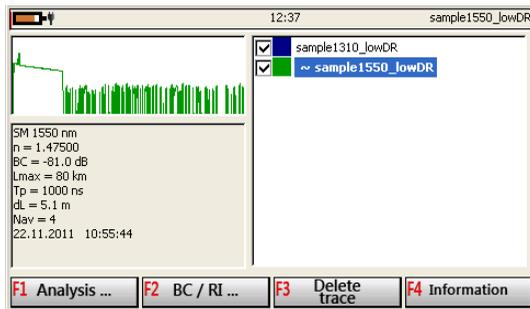

Figure 7.26
Press the button [F4 Traces] in the main program’s window of the OTDR to open the window shown in Figure 7.26. The buttons of this window perform first row functions for work with traces. They allow:
7.6.11.3 To remove a trace from the list, press the button [F3 Delete trace] (see Figure 7.26).
7.6.14.1 Each trace is provided with explanatory information. To view this information, press the button [F4 Information] in the window “Traces” (see Figure 7.26). The button being pressed, a new row of buttons and the window with four tabs – see Figure 7.28.